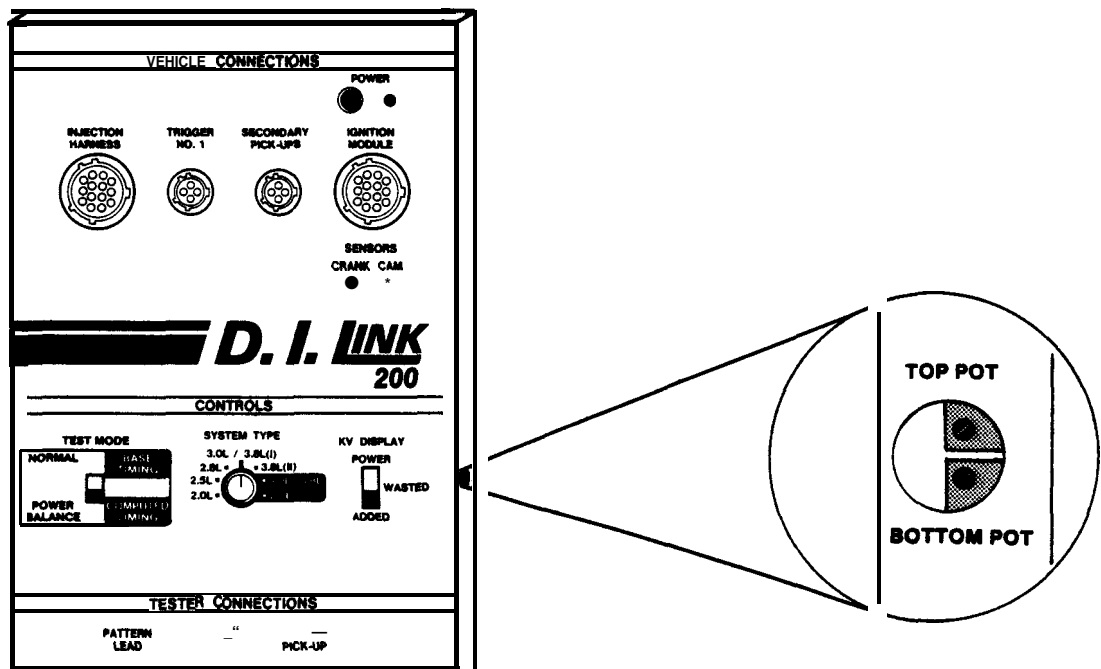

Figure 2
11. Adjust the bottom pot (see Figure 2) on the DIL-200 to read as shown in either A, B or C below.